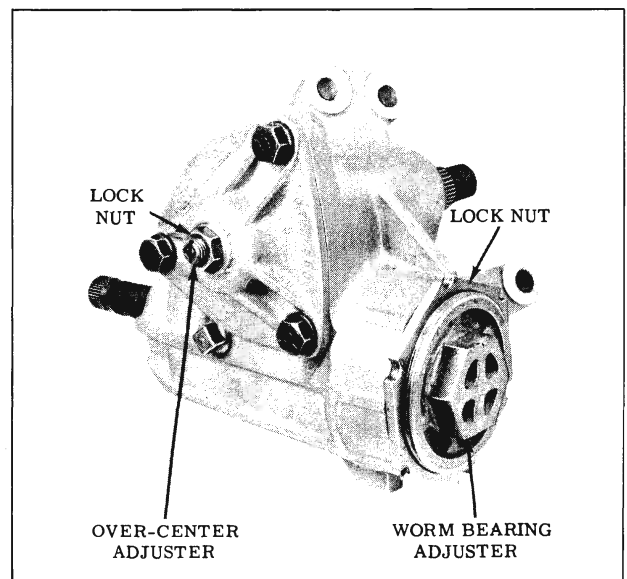

Fig. 4-205 Manual Steering Gear Adjustments
Before making adjustments in the steering gear check the front end alignment, shock absorbers, wheel balance and tire pressure to see that they are correct. There are two adjustments on the manual steering gear; worm bearing preload and over-center. (Fig. 4-205)
5. Loosen the worm bearing adjuster lock nut with a brass drift. Turn the worm bearing adjuster nut in to tighten or out to loosen to bring the preload into specifications. (Fig. 4-205)
1. Remove pitman arm with puller J-5504. Loosen lock nut on end of pitman shaft and turn the over-center adjuster a few turns counterclockwise. (Fig. 4-205) This will remove the load from the worm bearings caused by the close meshing of the rack and sector teeth.
2. Loosen the lock nut on the worm bearing adjuster (Fig. 4-205) and turn the adjuster counterclockwise a few turns.